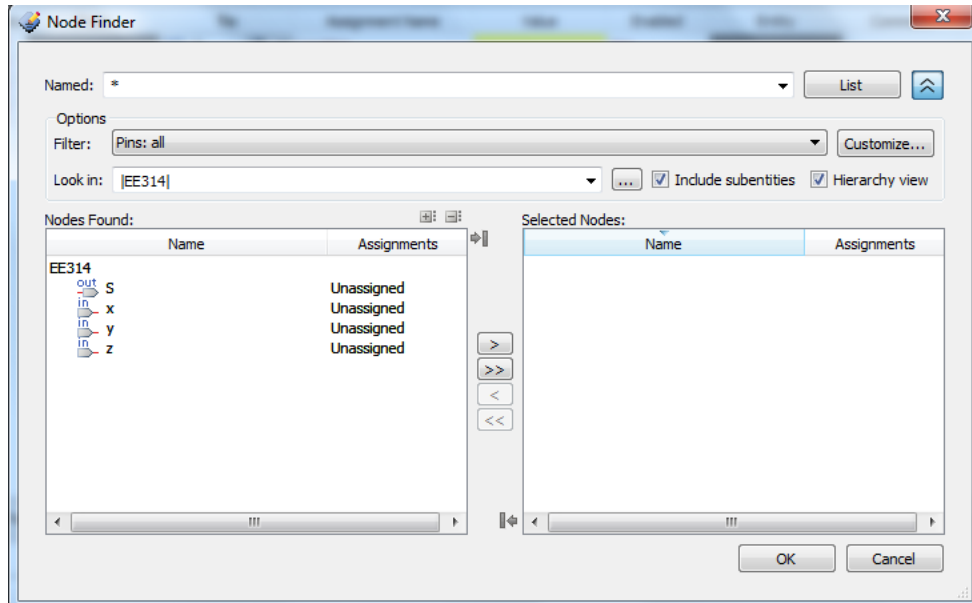

Fig. 10: Node Finder window
- 3) Click on the button to reach the window in Fig. 10. Click on  to reach more search options. In Filter drop down menu select **Pins: all**. Then click the List button to display output and input pins to be assigned: (S, x, y, z). Click on **>>** button and click OK. Now all pins are labeled under the column **To**.